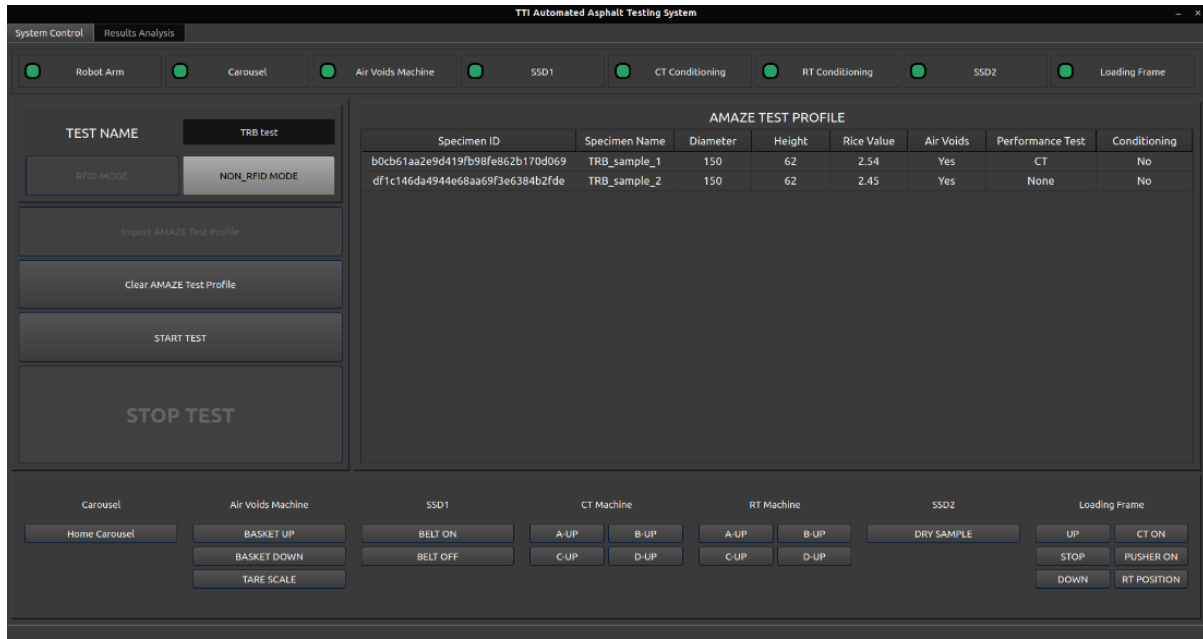

Figure 26. Screen of Machine Status
- Verify Machine Status.** Ensure that all the machine status LEDs displayed at the top of the GUI are green. This indicates that each machine is operational and ready for testing. If any LED is red, indicating an issue, reboot the corresponding machine and wait until the LED turns green, signaling readiness. Figure 26 shows all the machine status LEDs as green.